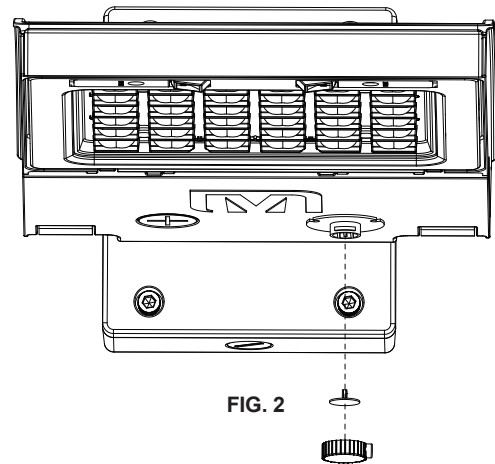

FIG. 2
2. Remove the USB-C receptacle cover by turning it 90°. (See Fig. 2)